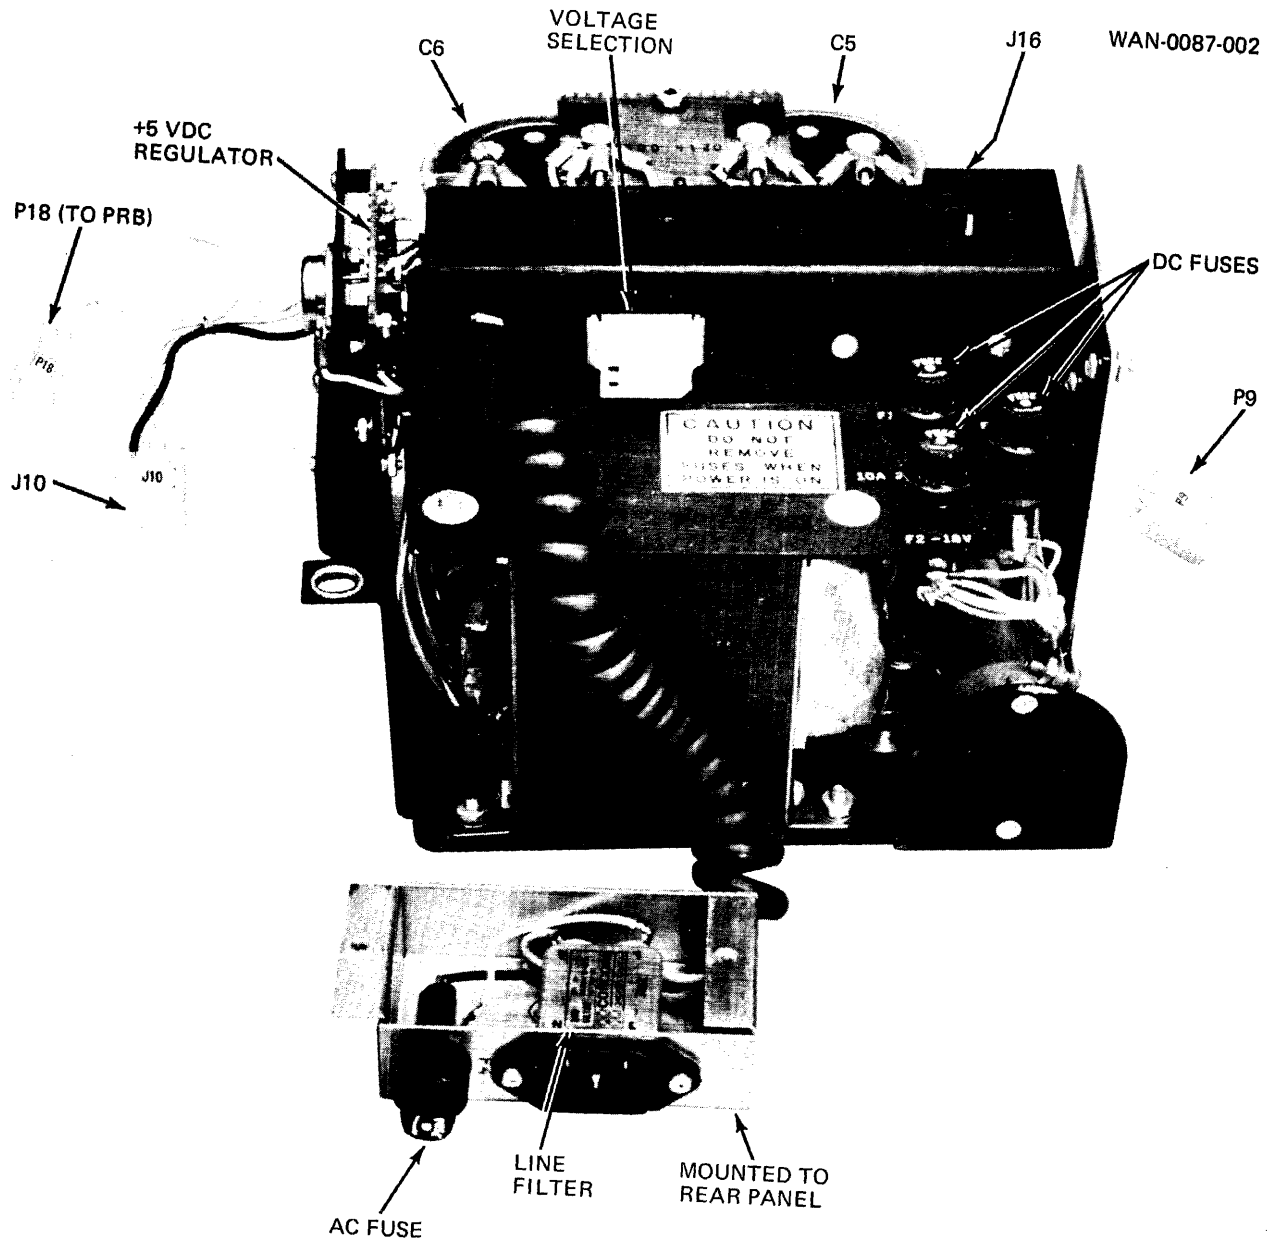

Figure 5-10 Power Supply Assembly
5.4.2.3 Power Supply Removal and Replacement. To remove the power supply, refer to Figure 5-10 and perform the following steps: